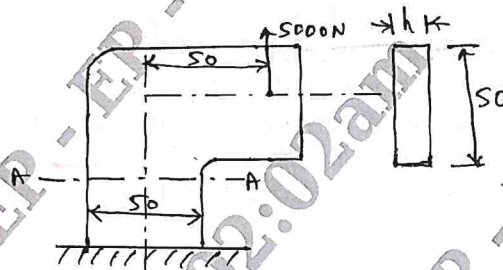

Fig.Q.1(b)
- b. Determine the required thickness of the steel bracket at section A-A when loaded as shown in Fig.Q.1(b) in order to limit the tensile stress to  $100 \text{ N/mm}^2$ .